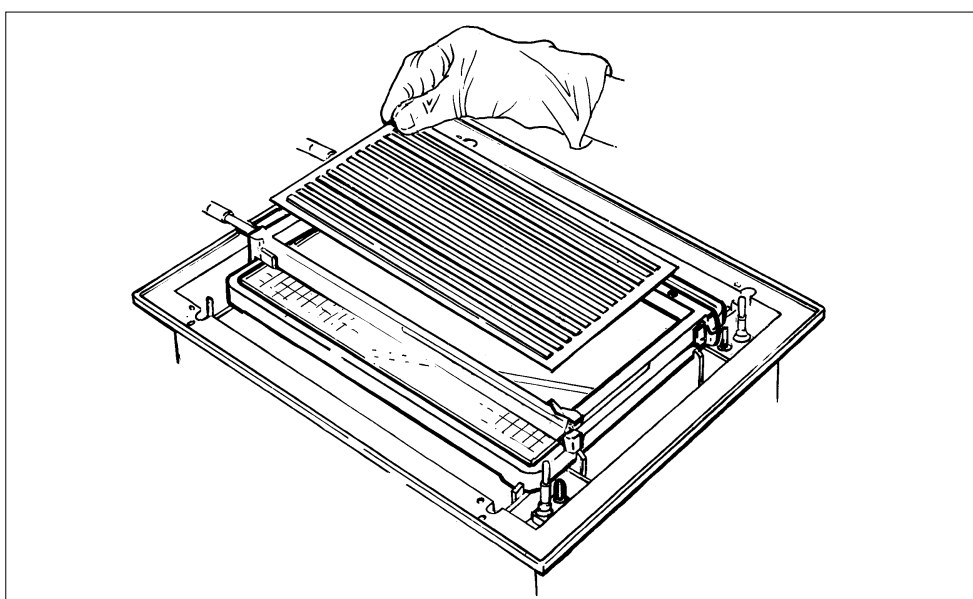

Fig. 8.
- Place Immobiline strip aligner, 12 grooves side up, into the tray on top of the oil (Fig. 8).